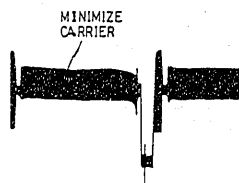

Fig. 4-8
(9) R-Y/B-Y Setup Adjustment (Figs. 4-8, 4-51)